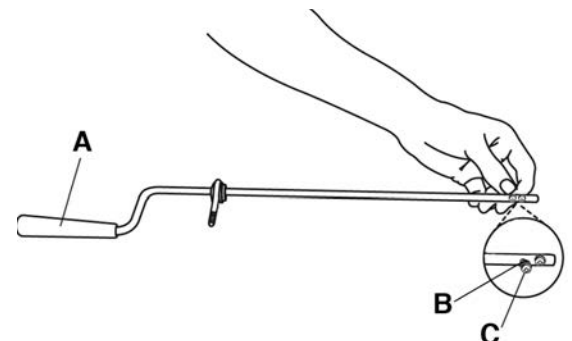

FIGURE 11
10. Locate the upper chute crank (A) Fig.11 in the parts bag. Remove the screws (B) and spring washers (C) from the upper chute crank (A).